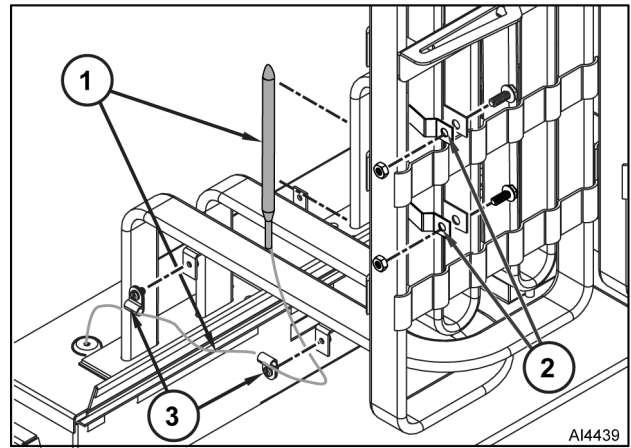

Fig. 19
2. Open clamps (2, Fig. 19) and remove loop clamps (3) and capillary tube / bulb (1) from heating element.